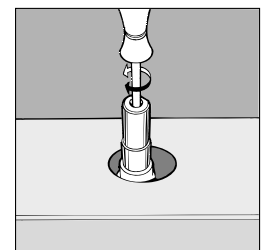

fig.10
- Remove the tap knob and turn the adjusting screw, situated inside the tap stem (fig.10), using a screwdriver (loosening the screw increases the height of the flame, tightening decreases it).